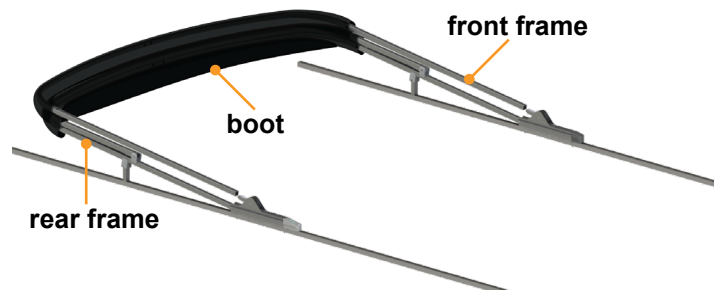

Fig.40
9. Fully collapse the bimini frame by placing the front frame on top of the rear frame (Fig.40).
11. Secure the remainder of the front frame in-place with the protective boot (Fig.40), zip ties, hook-and-loop strips or with some other type of cordage.